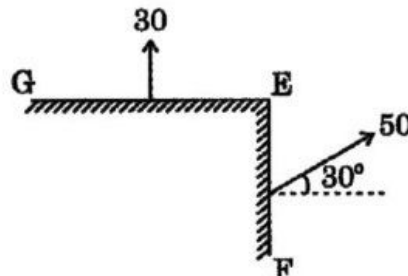

Fig. Q. 16(a)
- (b) A beam of T section shown in Fig. Q. 16(b) is 2.5 m in length and is simply supported at the ends. It carries a load of 3.2 kN inclined at  $20^\circ$  to the vertical and passing through the centroid of the section. If  $E = 200 \text{ GPa}$ , Calculate :
- (i) Maximum tensile stress; (3)
- (ii) Maximum compressive stress; (4)
- (iii) Deflection due to the load; and (4)
- (iv) Position of the neutral axis. (4)